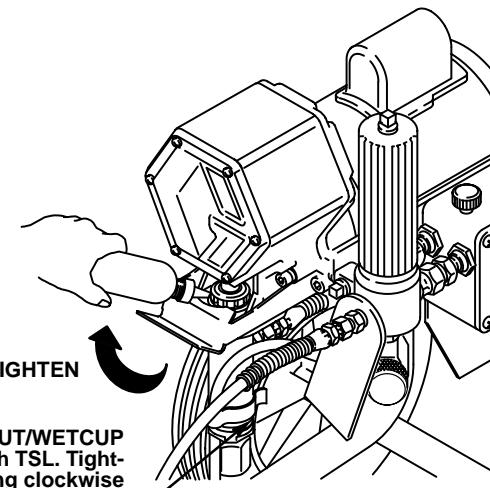

Fig 12-1
- Check the packing nut/wetcup daily.** First relieve the pressure; see page 9. Be sure the wetcup is 1/3 full of TSL at all times to help prevent fluid buildup on the piston rod and premature wear of packings. The packing nut should be tight enough to stop leakage, but no tighter. Overtightening may cause binding and excessive packing wear. See Fig 12-1.